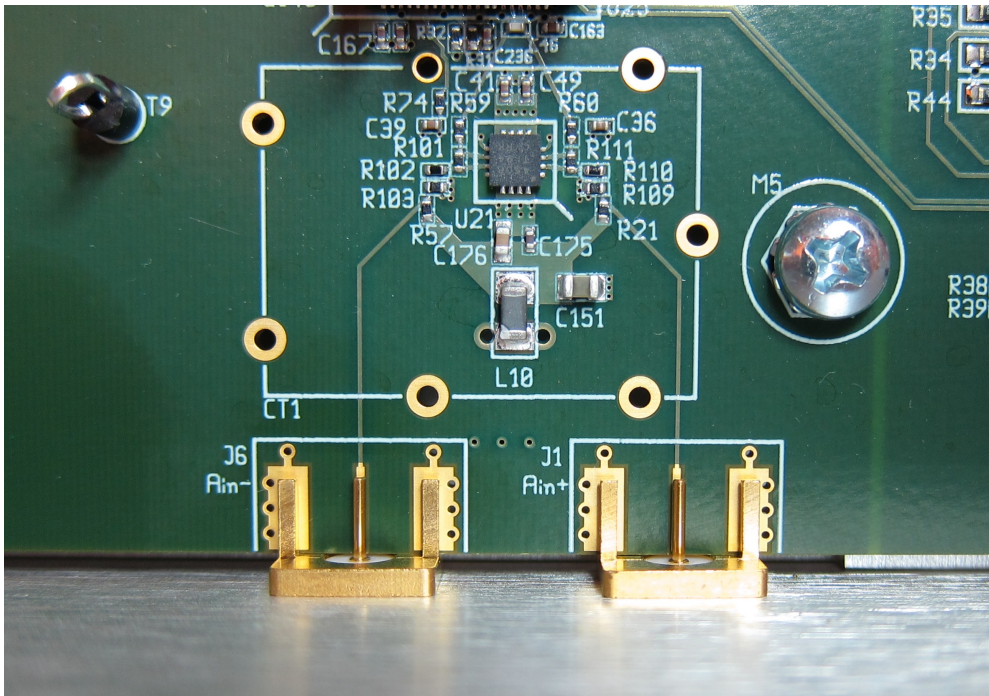

Figure 26: Aligning the center pins of the SMA connectors.
2. Place iGp12 PCB in the chassis, sliding it onto the SMA connectors from the rear of the chassis, see Figure 26.